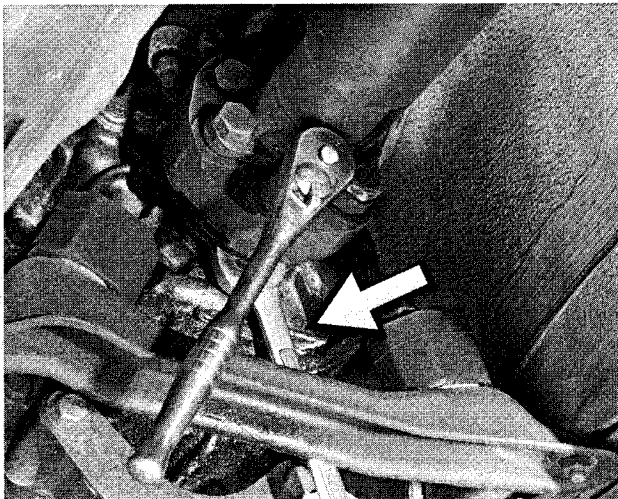

Fig. 3. Front driveshaft to transmission mounting bolt being removed. Note open-end wrench (arrow) being used to counterhold bolt.
4. Remove driveshaft mounting bolts. See Fig. 3. Discard old nuts.